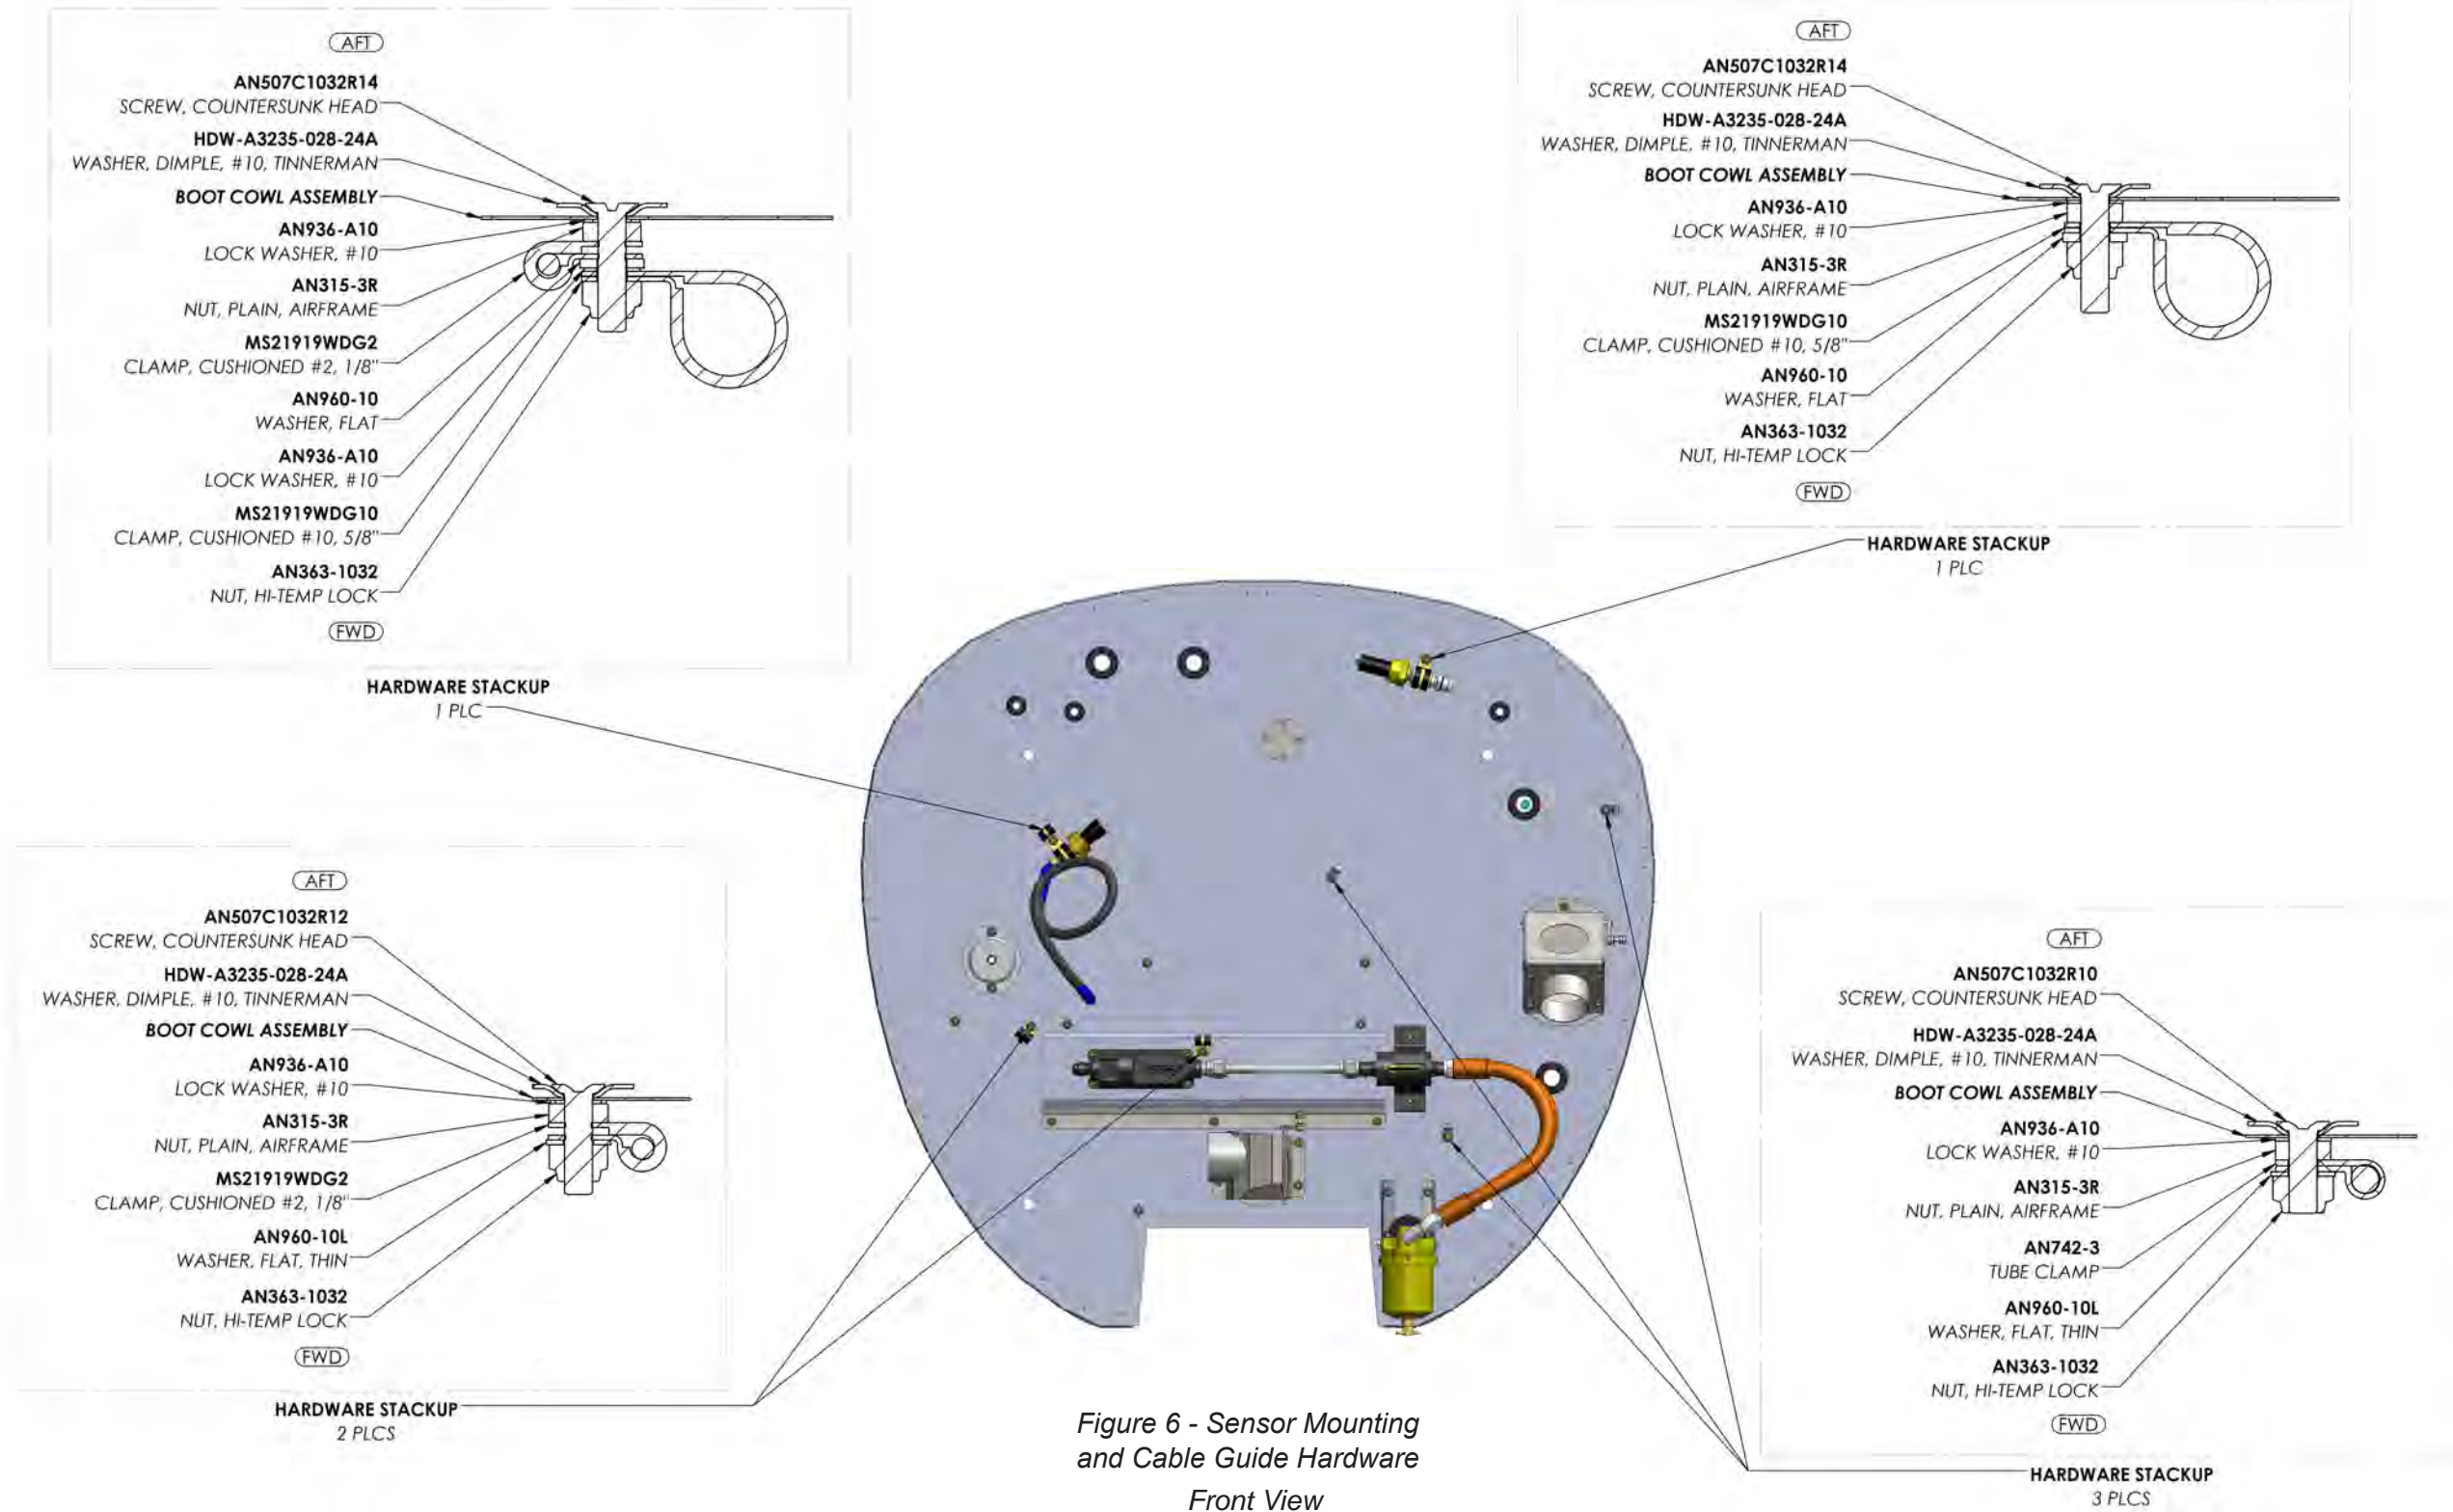

Figure 6 - Sensor Mounting and Cable Guide Hardware Front View
- Cabin heat and aux heat cables should be routed as shown in Figure 10 and mounted using hardware shown in Figure 6.